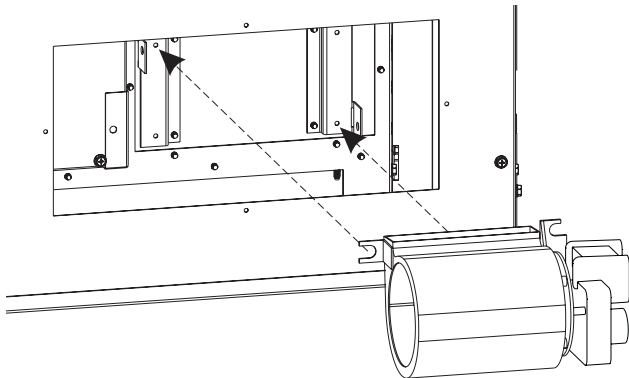

Figure 6
2. Place Blowers onto blower brackets. See Figure 6.